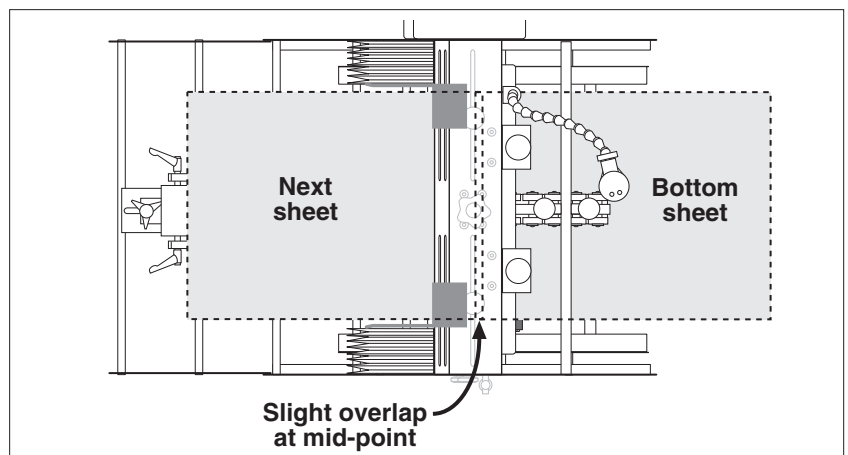

Figure 2-18. Optimum Overlap and Separation of Product
2. Observe how individual product enters and exits the gate assembly area. Remember, a properly set gap will allow each new sheet to enter at about the center line of the cylinder while the bottom sheet is exiting the gate assembly area (Figure 2-18). Ideally, this means a slight overlap of both the first sheet and the second sheet (1/8 in. or 3 mm) at the gate assembly area. The overlap occurs as the bottom sheet is exiting and the next sheet is entering.